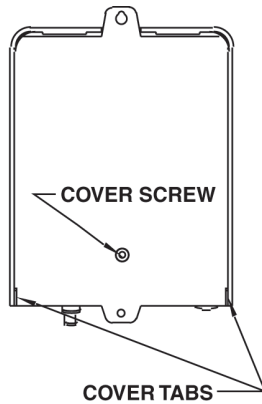

Figure 3: Cover Screw and Tabs
- a. Remove the Cover Screw on the back side of the base of the EC-AG (Figure 3).